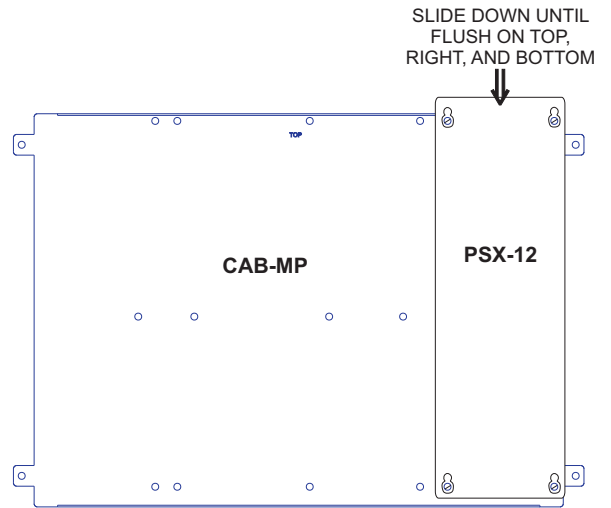

Figure 4
2. Place the PSX-12 over the four screws on the Mounting Plate and slide it down or towards you to rest on the four screws. (Refer to Figure 4.) When the PSX-12 is in the correct position it will be flush with the top, bottom and right side of the Mounting Plate.